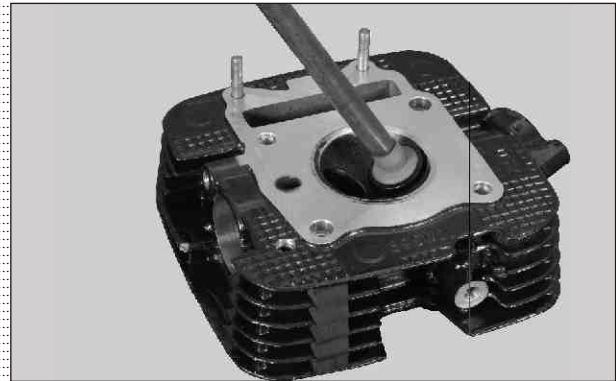

Fig. 3.151
- Hold the valve head with a lapping stick, rub the valve against its seating by applying very light force till the perfect seating is obtained. (Fig. 3.151)